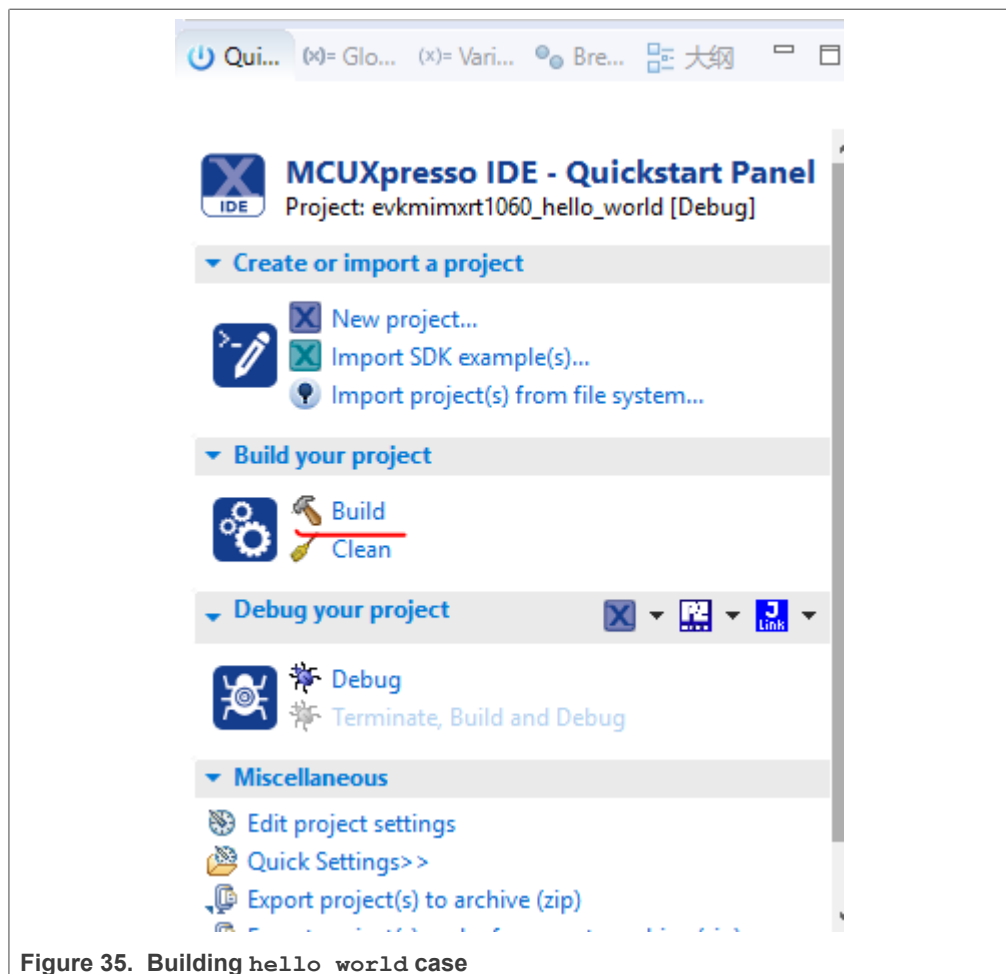

Figure 35. Building hello world case
6. On the **Quickstart** panel, click **build** **evkmimxrt1060_demo_apps_hello_world [Debug]** , as shown in Figure 35.